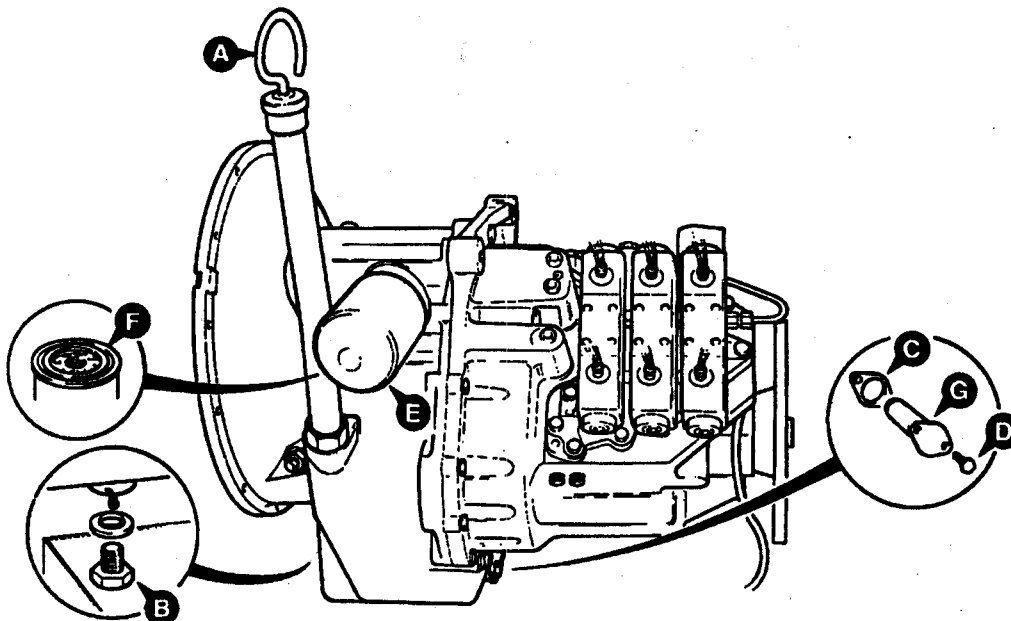

Figure 1. Maintenance Points
### Check Oil Level - (See Figure 1)
### Change Oil & Clean Strainer - (See Figure 1)
4. Remove drain plug **B**, Figure 1 and drain oil.
### Filter Replacement (See Figure 1)